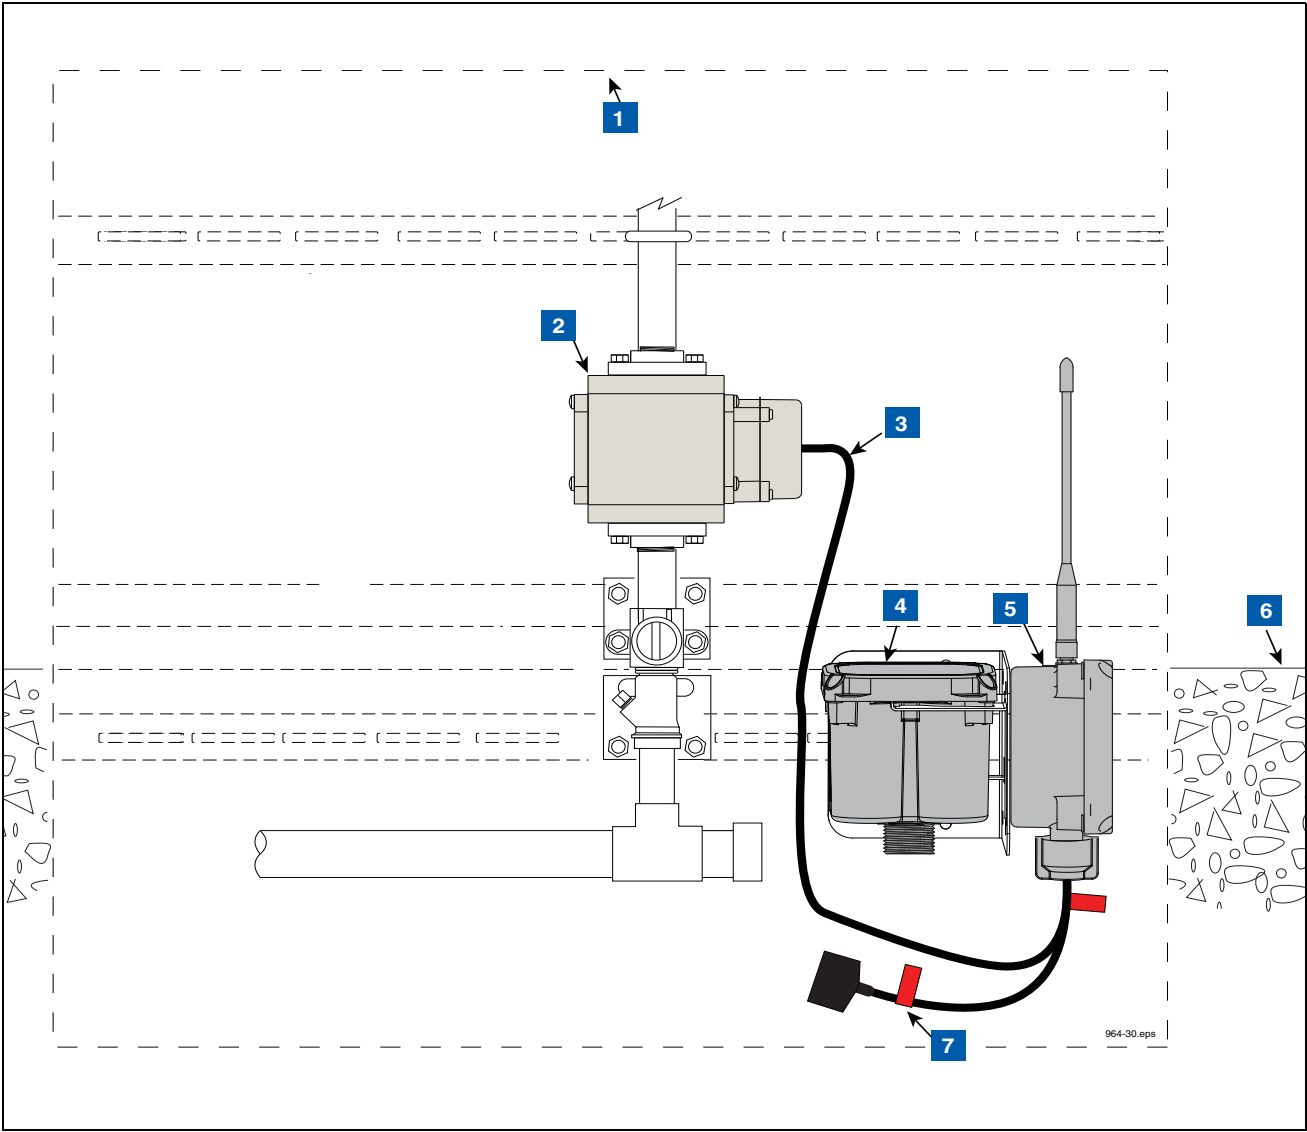

Figure 25. Example VFM Transmitter Installation In Dispenser
4. Determine a support location within the dispenser cabinet that will allow you room for the transmitter/battery support bracket. Clamp the bracket to an available support structure (see Figure 25).
5. Determine a support location within the dispenser cabinet that will allow you room for the transmitter/battery support bracket. Clamp the bracket to an available support structure (see Figure 25).
LEGEND FOR NUMBERED BOXES IN Figure 25